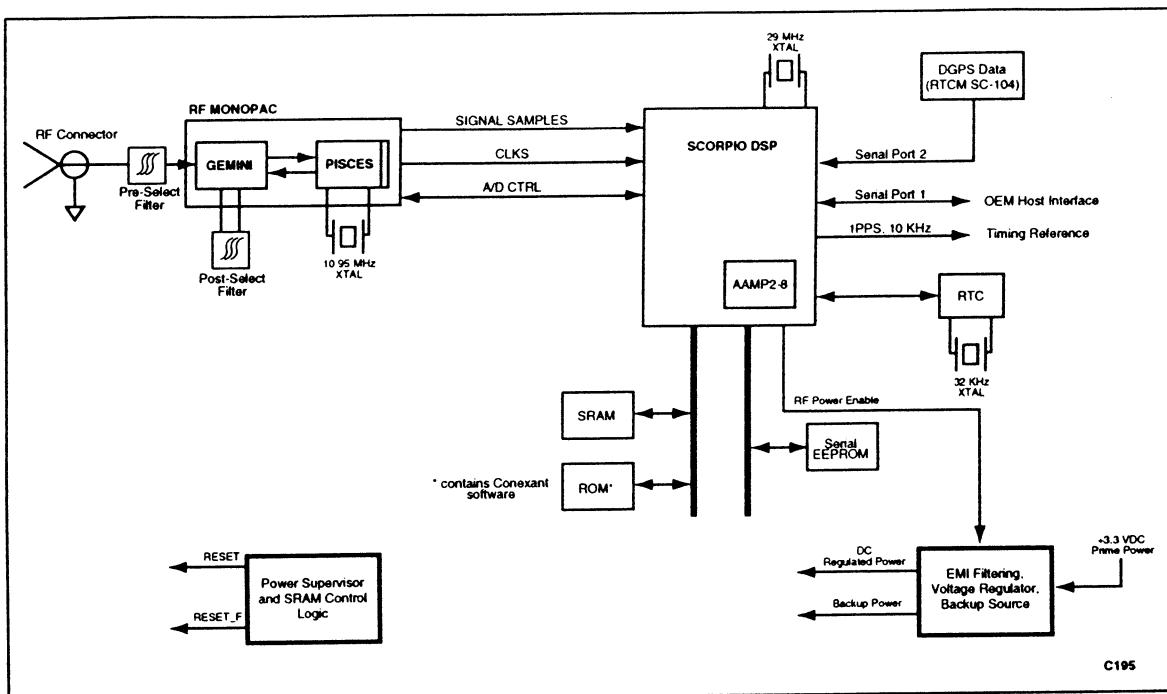

Figure 3. Jupiter LP Receiver Architecture
**Receiver Architecture.** The functional architecture of the Jupiter LP receiver is shown in Figure 3. The receiver design is based on the Conexant Zodiac chipset: the Gemini/Pisces MonoPac™ and the Scorpio DSP, which contain the required GPS functionality. The Gemini/Pisces MonoPac™ contains all the RF downconversion and amplification circuitry, and presents the In-Phase (I) and Quadrature-Phase (Q) Intermediate Frequency (IF) sampled data to the Scorpio device. The Scorpio device contains an integral microprocessor and all the required GPS-specific signal processing hardware. Memory and other external supporting components configure the receiver into a complete navigation system.